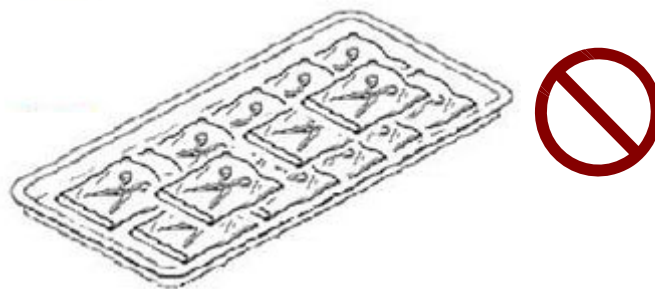

Figure 49
**Warning:** If implements are packed with sterilizing pouches, please make sure not to pile them up. Follow Figure 48 for correct placement and do not overlap pouches like to Figure 49 ensure the sterilization quality.